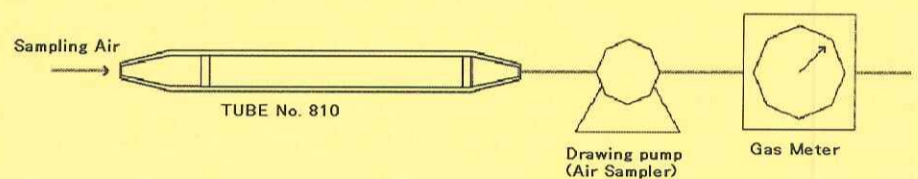

Fig.3
- ① Break both ends of a new 810 tube.
- ② Connect the tube end to the continuous drawing pump (such as S-20 series) which has stable sampling flow rate of 200 mL/min with connecting tube as shown in Fig. 3.